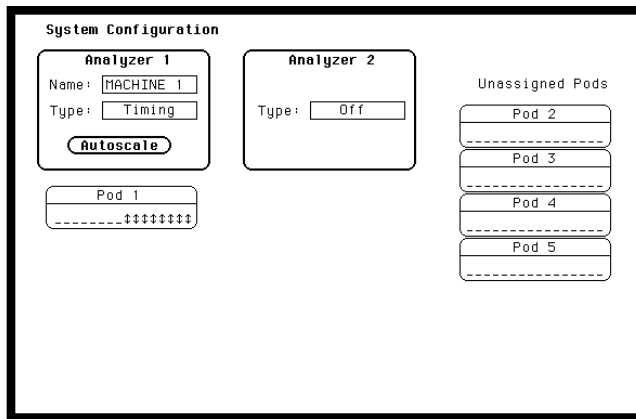

Figure 3-31. System Configuration for Glitch Test
3. Assign the pod under test to **Analyzer 1** in **System Configuration** as in figure 3-31. Refer to steps a and b if unfamiliar with menus.
2. Assign the pod under test to **Analyzer 1** in **System Configuration** as in previous figure 3-31.